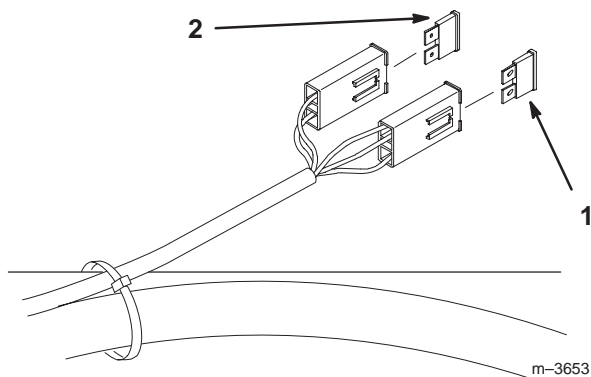

Figure 53
1. Raise the seat to gain access to fuse holder (Fig. 53).
2. To replace fuses pull out on the fuse to remove it (Fig. 53).